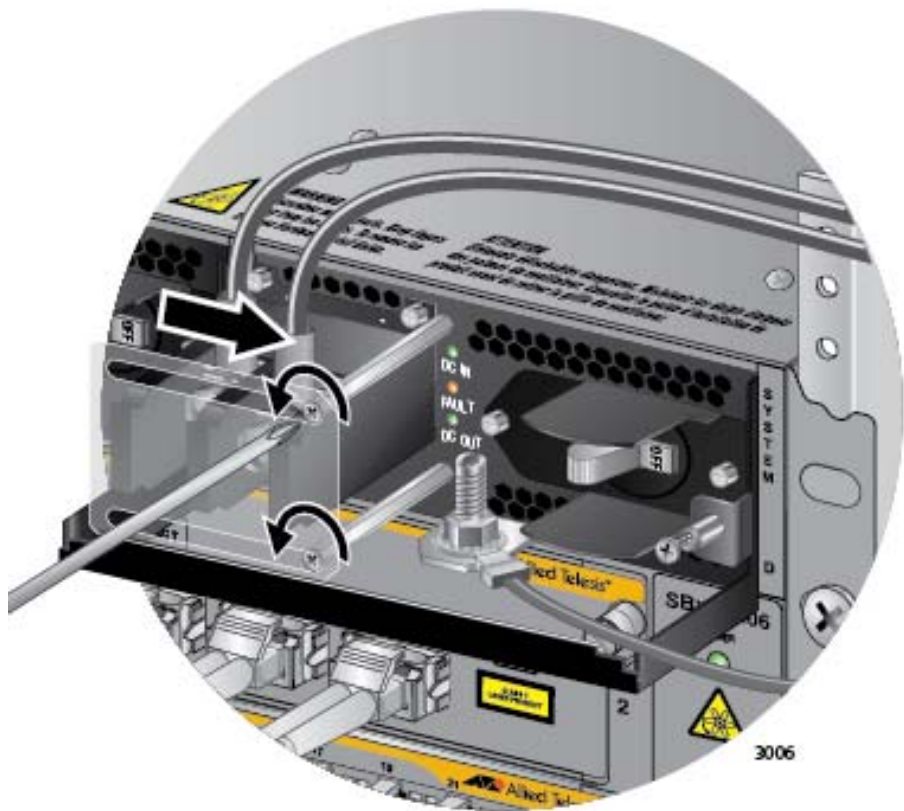

Figure 137. Opening the Plastic Window on the Terminal Block
4. Use a #1 screwdriver to loosen the two screws that secure the plastic cover over the terminal block and slide the cover to the right. You may need to slightly lift the locking handle to access the bottom screw. Refer to Figure 137.